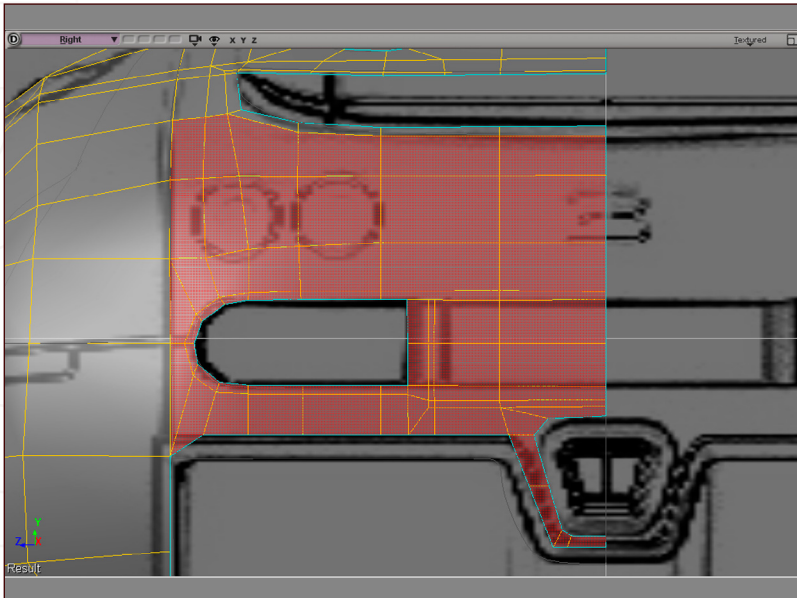

Fig 23
23. Now onto the back of the car (Fig23).